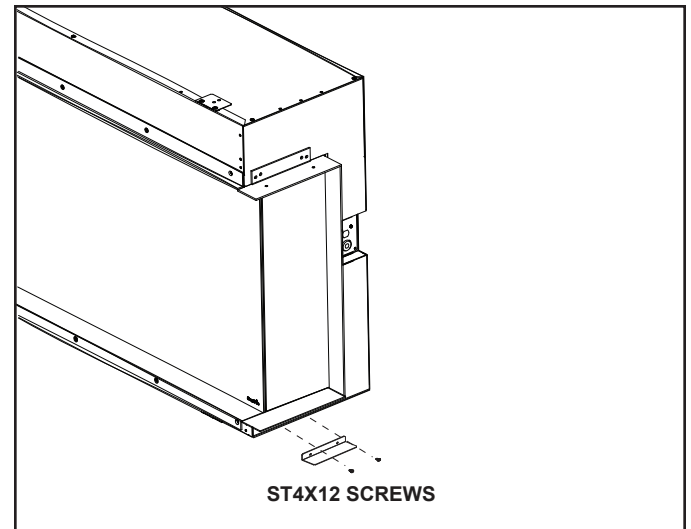

Figure 13
2. Attach the two bottom brackets, one (1) on each side to both sides of the appliance using four (4) ST4\*12 screws. See Figure 13.